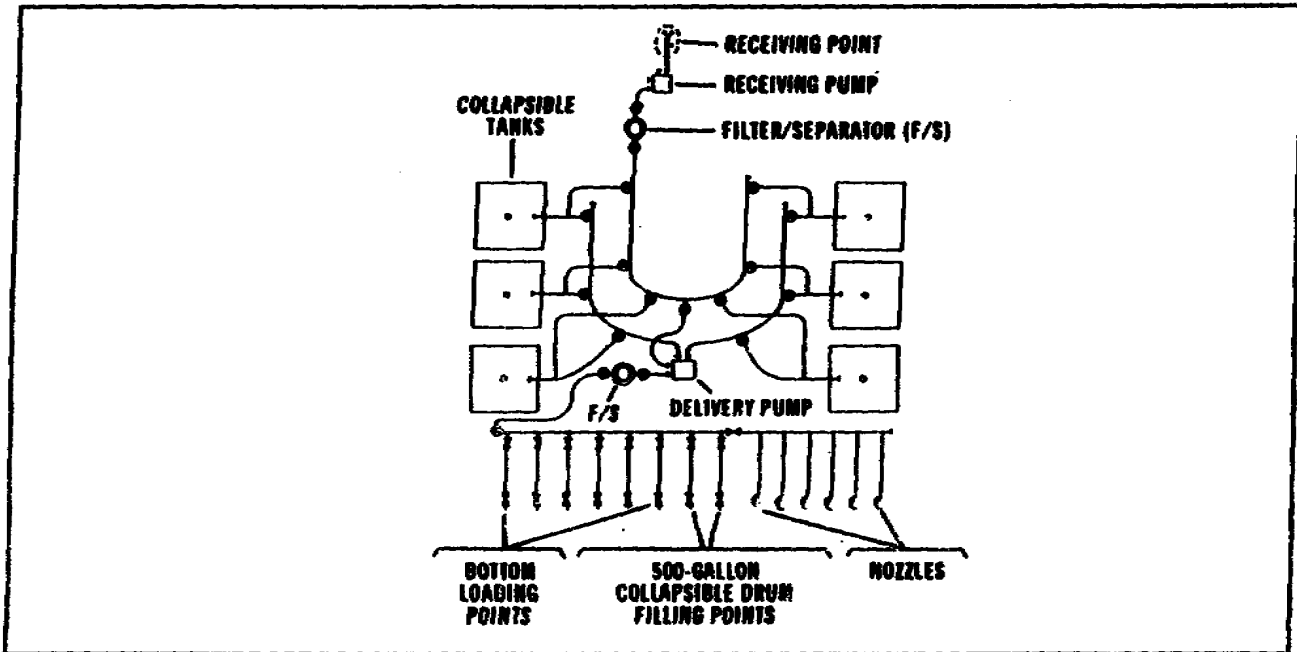

Figure 1-8. U-arrangement
(5) Site Preparation. The three major items of equipment that you have to deal with in the FSSP are the 10,000-gallon collapsible tanks, the 350-GPM pumping assemblies, and the 350-GPM filter/separators. Slope the tank sites gently toward the manifold end to help drain the tanks prior to removing them. Slope the site for each tank no more than 3 to 6 inches in the direction of the tank's fill port. Build a fire wall around each tank. Make sure that it is large enough to hold the contents of the tank and 1 foot of freeboard. To do this, build the fire wall 3 feet high and 18 inches wide at the top. Make the inside dimensions of the fire wall 26 feet by 26 feet. Maintain a distance of 3 feet from the edge of the tank to the base of the fire wall. If engineer personnel prepare the site, give them this information. Clear the pump and filter/separator sites of dry grass, leaves, and trash.
b. Standard Fuel System Supply Point Arrangements. Lay out the FSSP to take advantage of the terrain, natural cover, concealment, available hose, and road nets. If you must handle two types of fuels, such as jet propulsion 8 (JP-8) and motor gasoline (MOGAS), you may have to divide the fuel system as shown in Figure 1-5. Figures 1-8 through 1-11 show some typical arrangements. If none